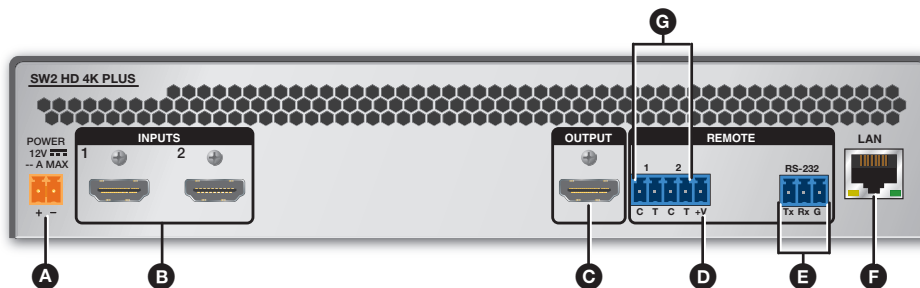

Figure 1. SW2 HD 4K PLUS Rear Panel
3. **Connect HDMI input sources** to one or more of the SW HD 4K PLUS input connectors (see figures 1 and 2, **B**, on the previous page).
- **LAN port** — Use an RJ-45 cable to connect this jack (see figures 1 and 2, **F**) to a LAN for Ethernet control of the switcher.